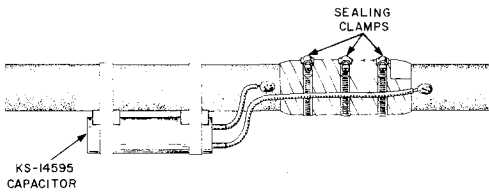

Fig. 5—Sealing Clamps Placed
- (e) Place sealing clamps over the outer vinyl tape wrapping as shown in Fig. 5.
upright and the insulating joint since the capacitor unit is well insulated from its case. Fasten the capacitor and connect the leads as shown in Fig. 5. If the arrangement of the cables or the position of the joint does not leave space for mounting the capacitor in this way, it may be mounted in a convenient position on the framework, consistent with maintaining short lead length.